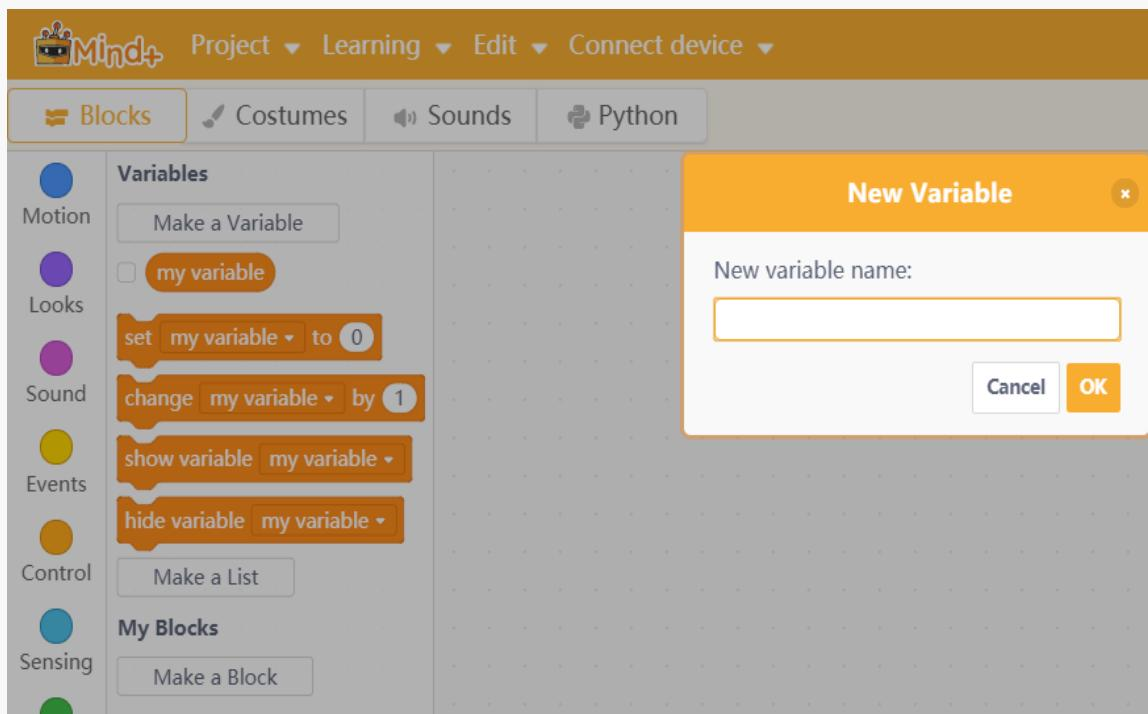

Figure 4-12
**Create a variable:** click “Variable” module, a default variable “my variable” can be found in its block area. Create a variable and name it. For instance, name it as “score”. Now we can design our variable: assign, increase by degree, hide or show the variable. Shown as figure 4-12.